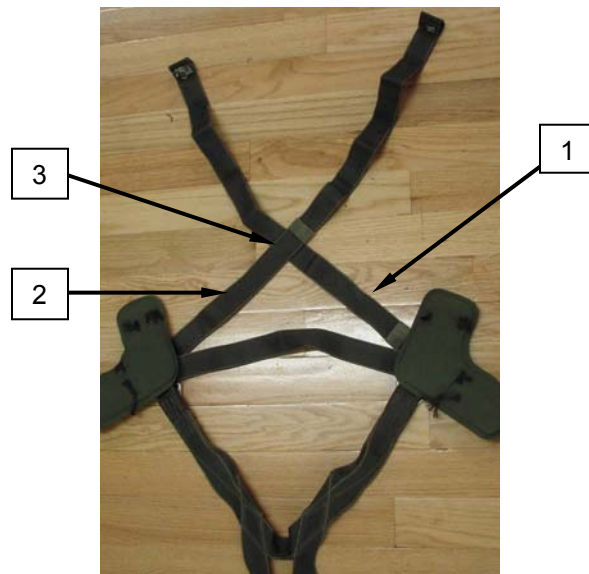

Figure 15. Lower Saddle Assembly.
6. Lay out the lower saddle assembly (Figure 15) so that the L-shaped comfort pads are facing up and the ejector snaps are facing down and that the right diagonal back straps (Figure 15, Item 1) cross over the left diagonal back strap (Figure 15, Item 2) forming an "X" (Figure 15, Item 3).